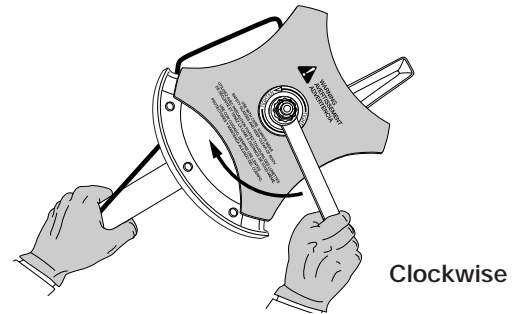

FIGURE 14
2. Hold the locking rod in place by grasping it next to the boom of the unit, Figure 14.
3. While holding the locking rod, loosen the nut on the blade by turning it clockwise with a 5/8 inch closed-end or socket wrench, Figure 14.